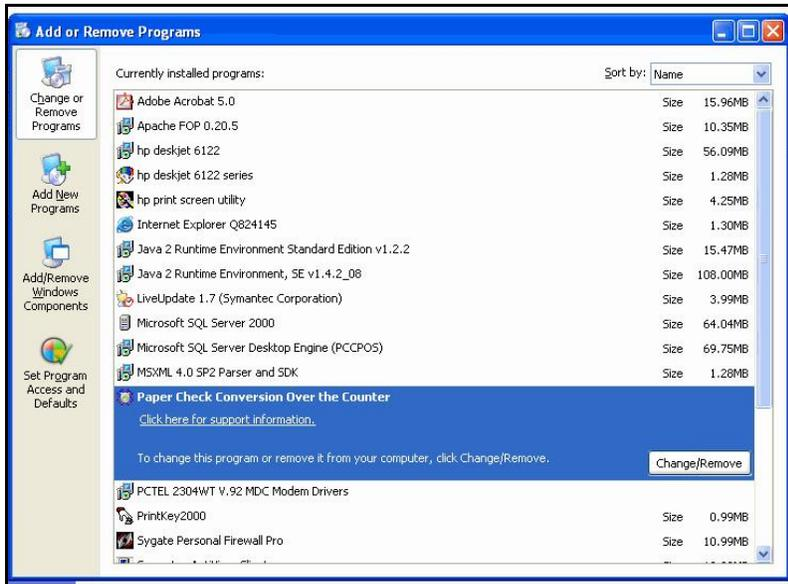

Figure 2.11
1. Click to highlight **'Paper Check Conversion Over the Counter'** then click on **'Change/Remove'**. (Figure 2.11)